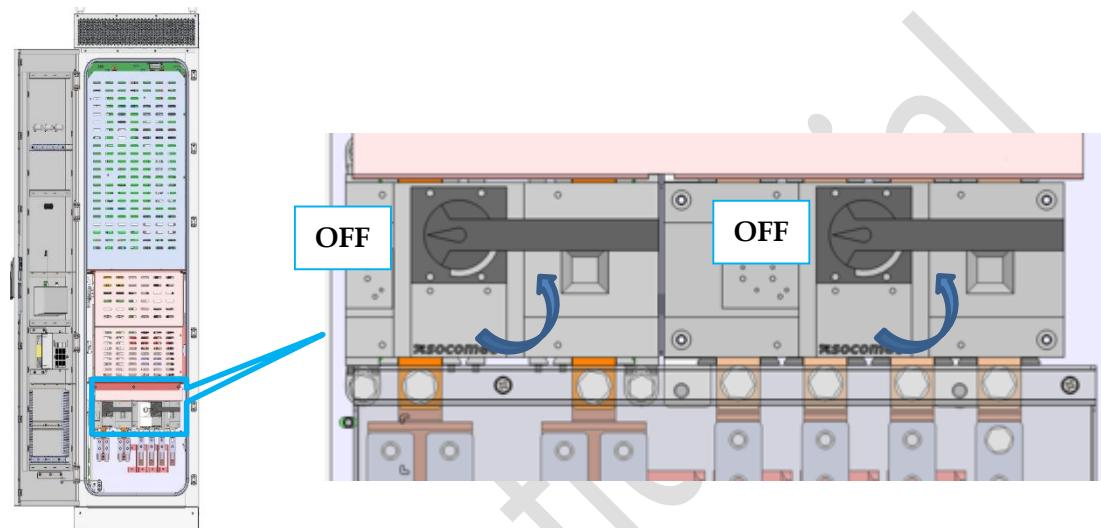

Figure 5-2 AC and DC disconnects OFF location
**Step 4:** turn the AC and DC switches/disconnects in the front of the cabinet to OFF state as shown in Figure 5-2. The PCS powers off and one can do maintenance to PCS.